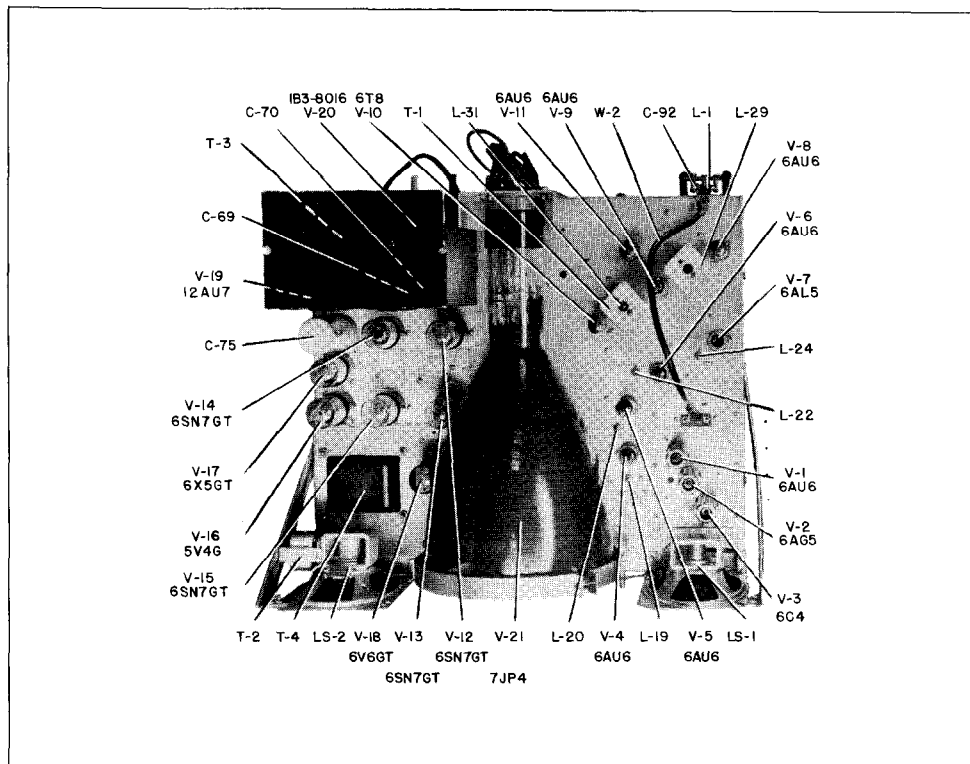

Figure No. 5. Top View of Receiver (cabinet removed)
- Step 4. Adjust L-19 and L-22 for maximum reading on the voltmeter. Retard the output of the generator, as necessary, to keep an on-scale reading on the voltmeter. See Figure No. 5 for location of L-19 and L-22.